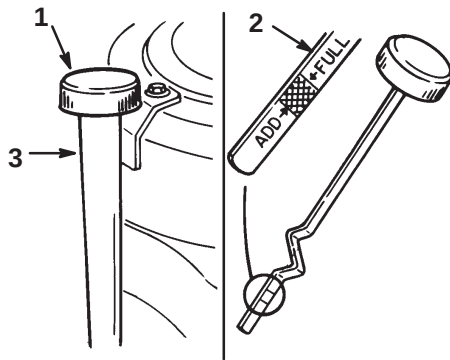

Figure 20
2. Clean around the oil dipstick (Fig. 20) so dirt cannot fall into the filler hole and damage the engine.
3. Unscrew the oil dipstick and wipe the metal end clean (Fig. 20).
4. Slide the oil dipstick fully into the filler tube, do not thread onto tube (Fig. 20). Pull the dipstick out and look at the metal end. If oil level is low, slowly pour only enough oil into the filler tube to raise the level to the "FULL" mark.
5. Slowly pour approximately 80% of the specified oil on page 25, into the filler tube (Fig. 20). Now check the oil level; refer to Checking Oil Level, page 25. Slowly add additional oil to bring to "FULL" mark on dipstick.